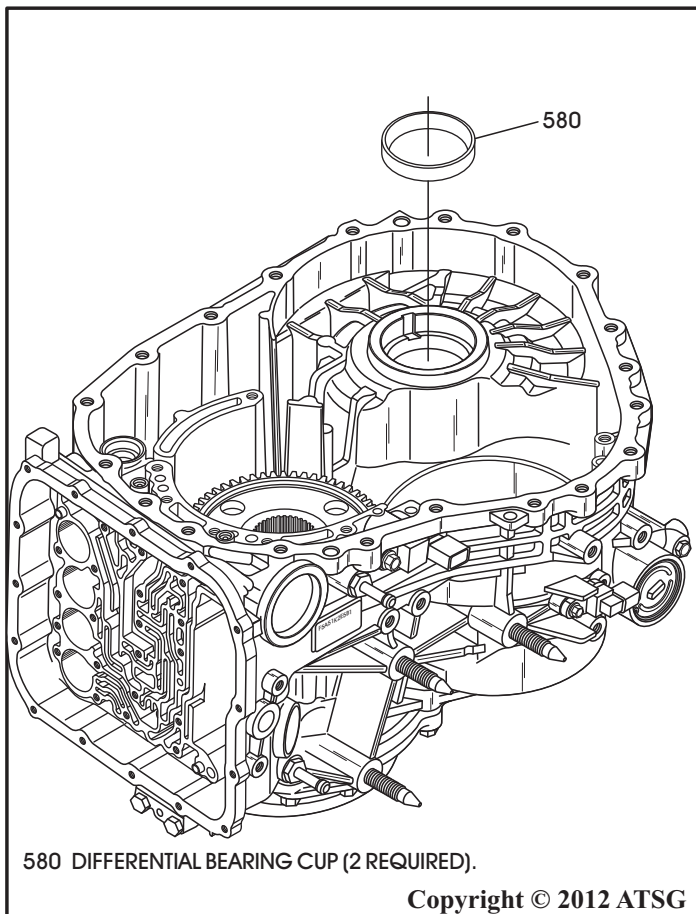

Figure 97
7. Install new differential bearing cup as necessary using the proper driver, as shown in Figure 97.